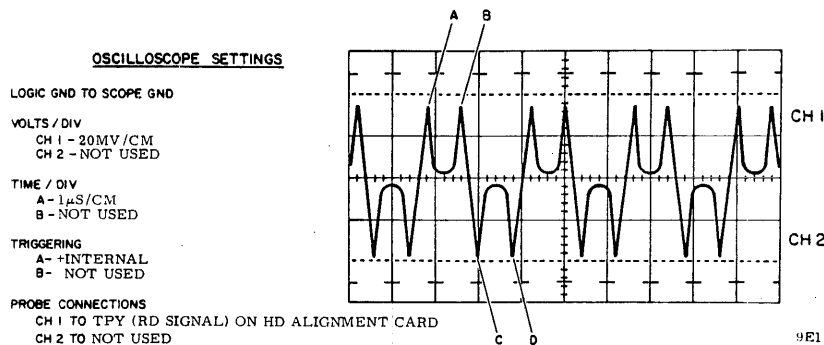

Figure 4-3. Head Alignment Waveform
3. Command direct seek to cylinder 004 (000).
4. Observe dibit pattern on oscilloscope. It should be similar to that shown on figure 4-3.
1. Set S/RW switch to RW. Observe that dibit pattern is similar to that shown on figure 4-3.
- c. Observe oscilloscope and adjust head to obtain balanced dibit pattern. Pattern is balanced when point A amplitude equals point B and point C equals point D (see figure 4-3).
- c. Command direct seek to cylinder 491 (245).